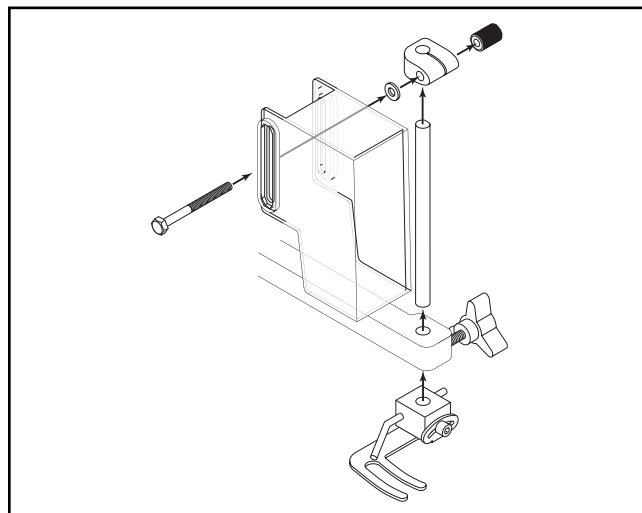

Figure 6. Blade guard assembly.
1. Thread the bolt through the blade guard components as shown in **Figure 6**, and screw it into the knurled nut.